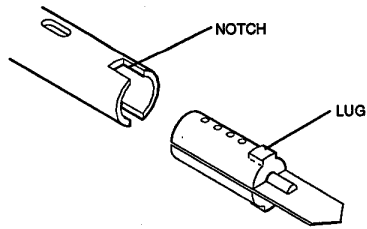

Figure 2. Installing the Split Chuck.
5. Place the split chuck (with drill bit) inside the spindle. Make sure the lugs on the ends of the split chuck line up with the notches in the spindle (figure 2).